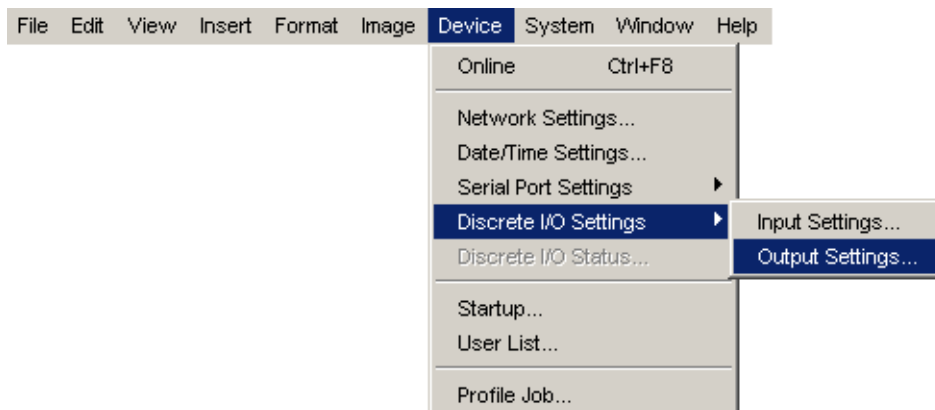

Figure 2-7: Accessing the I/O Output Settings
3. From the Device menu, select the Discrete I/O Settings submenu. Select the Output Settings option (Figure 2-7).